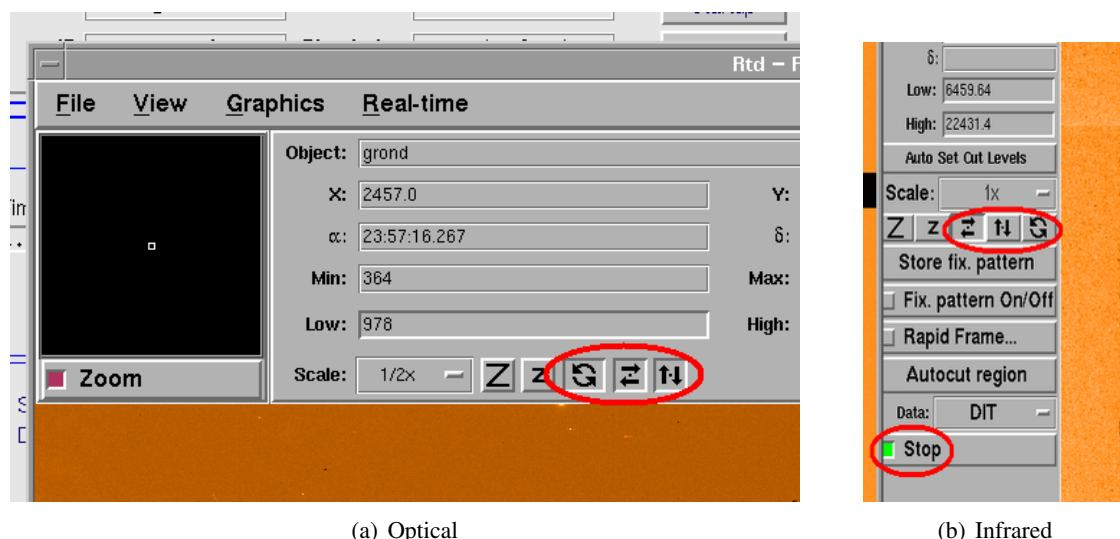

Figure 2.10: Correct sky orientation of the GROND displays. The infrared one is receiving data in real time (green checkbox).
- c. Check that image is flipped along both axes and rotated (see Fig. 2.10(a), p. 34).
The left column should have a green button with text `Stop` (see Fig. 2.10(b), p. 34).
- g. Check that the image is horizontally flipped (see Fig. 2.10(b), p. 34).